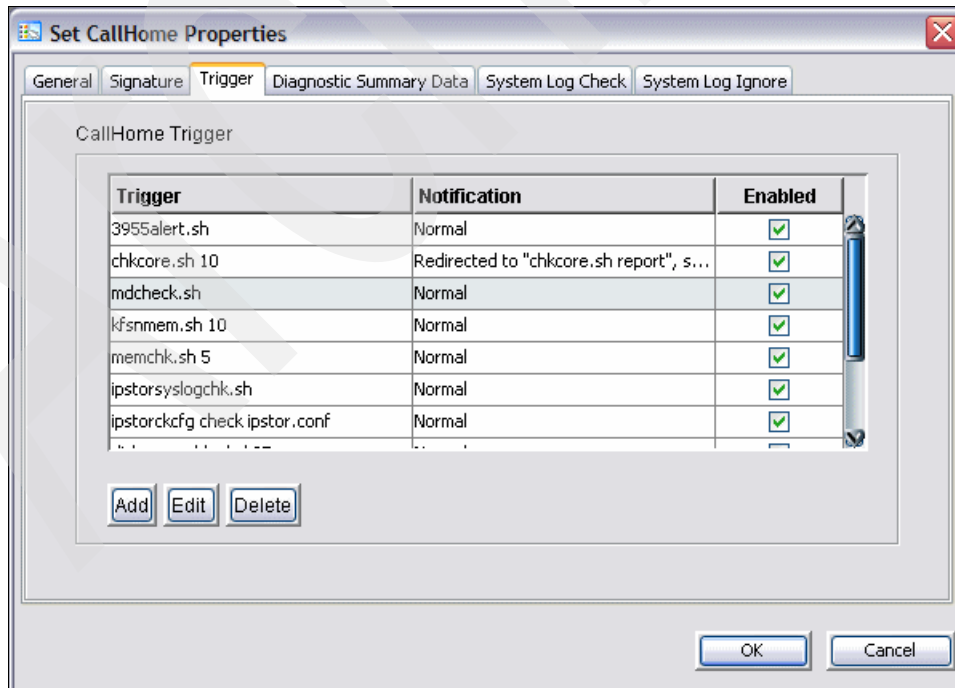

Figure 5-76 Set CallHome Properties: Trigger
5. From the Trigger tab, set the triggers that will cause CallHome to send an e-mail. See Figure 5-76. Triggers are the scripts/programs that perform various types of error checking when CallHome activates. Default triggers are explained in *IBM TapeSystem Virtualization Engine for Tape Console Help* or *IBM Virtualization Engine TS7510 User's Guide*, GC26-7769 (Chapter 9, "CallHome").